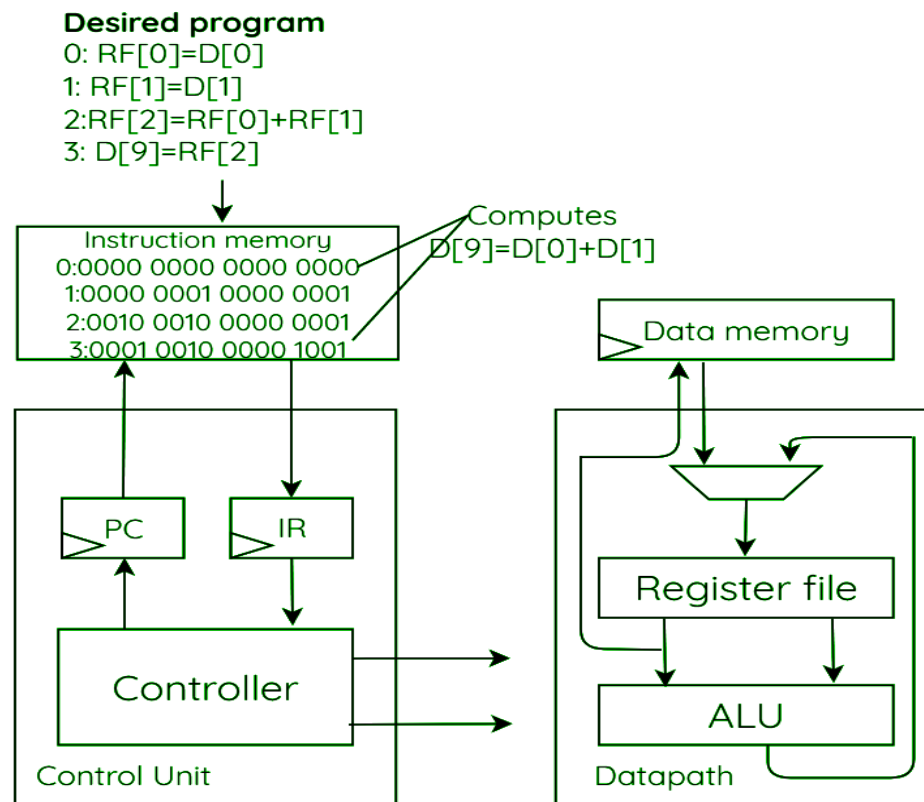

Figure1. Example processor design
Figure1 illustrates an example of a general-purpose processor. In the control unit, you will have a program counter (**PC**) register to keep track of the next instruction that is going to be executed. Instruction register (**IR**) will fetch that “next” instruction from the instruction memory. The controller FSM will decode the instruction in the IR and send the control signals to the datapath accordingly. There are two additional memory units to register files here, data memory and instruction memory. Data memory is to provide additional space for data since register files offer very limited space, and instruction memory is where the program (instructions) to be run is stored.
As you can see in Figure 1, there are 2 important registers in the Controller module, which are PC and IR. PC is responsible for keeping the address of the next instruction that is going to be executed. When an instruction is executed, PC is incremented so that it will point to the next instruction in the program (Instruction memory). IR is the register where the instruction to be executed is fetched before being decoded. Instruction Memory(IM) is the memory where the program in machine code is being held. Since the instruction set consists of 12-bit instructions, IR and Instruction Memory should also hold 12-bit values. IM should have 8 slots, therefore PC should be 3 bits (to specify the address). You should write some instructions into the instruction memory yourselves to test your